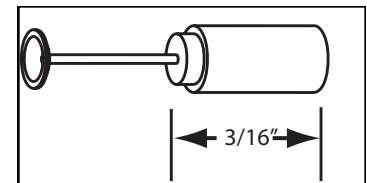

Fig 3
- 3) Remove brushes from brush box and inspect length. If brush length is 3/16" or less then brushes need to be replaced (Fig 3).